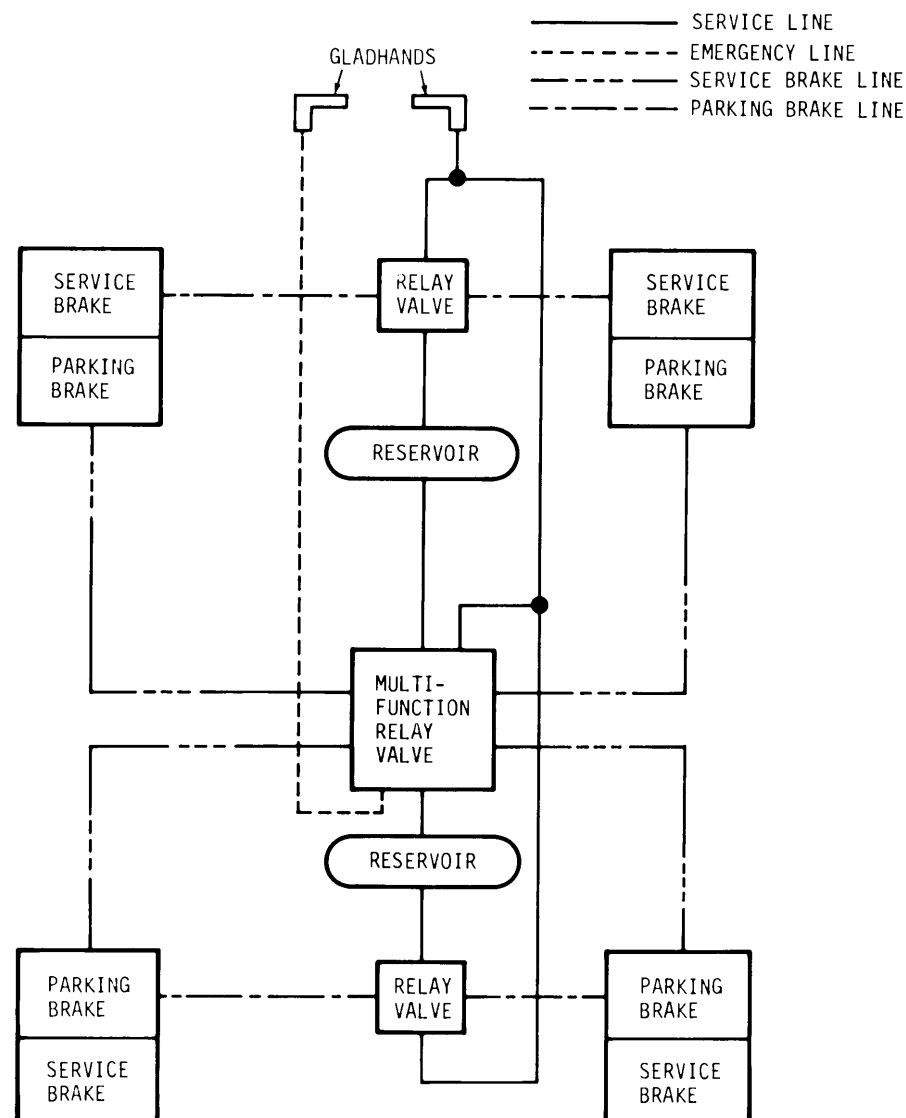

Figure 4-20. H871 Brake System Schematic
b. Type of Brakes. The brakes are the air actuated type (figs. 4-20, 4-21). Air pressure is used to operate the mechanical internal brakes at the semitrailer wheels. The brakes are applied in proportion to the foot pressure applied to the brake pedal of the towing vehicle.